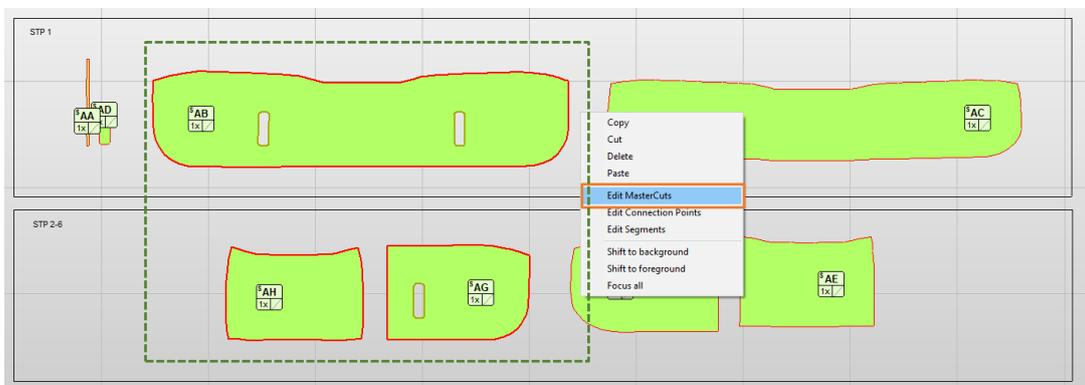

Figure 263
The ability to vary the colors of our MasterCuts as desired also gives us the opportunity to use the same colors as in our 3D. This way you can see immediately which MasterCut belongs where (Figure 263; from E2. Lay-up Sequence).
- To change the color of our MasterCuts we can do this for single mastercuts just by double click. Further we can also select several MasterCuts at the same time, right-click and then select **[Edit MasterCuts]** (Figure 263).